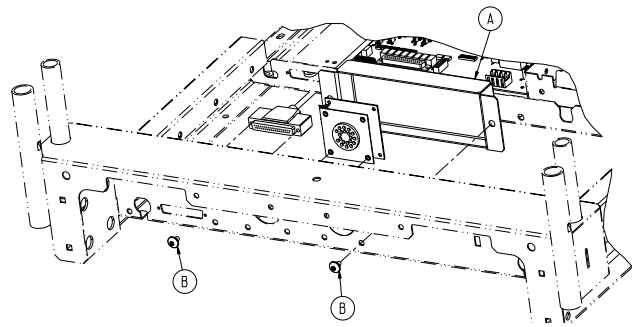

Figure 1
4. Using a T27 Torx driver, remove the two screws (B) securing the pendant port cover (A) to the litter frame shown in Figure 1.